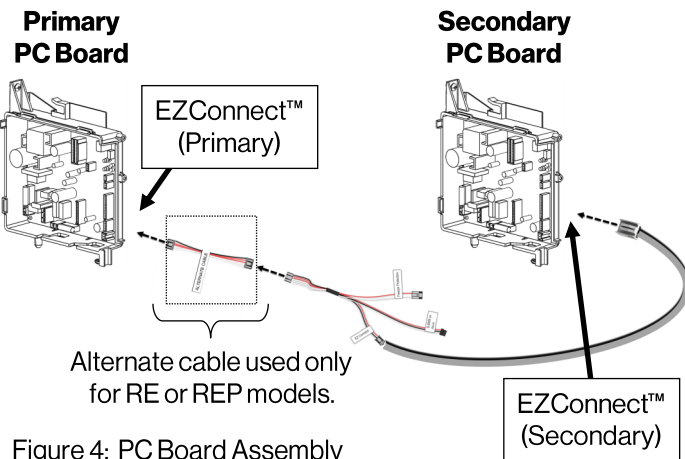

Figure 4: PC Board Assembly
2. Connect one end of the EZConnect™ Cable to the Accessory Cable labeled "EZ Connect" (Figure 4). **RE/REP models only:** Connect Alternate Cable to the opposite end of the Accessory Cable.
4. Connect the other end of the EZConnect™ Cable to the Accessory Port on the PC Board of the secondary water heater (Figure 4).